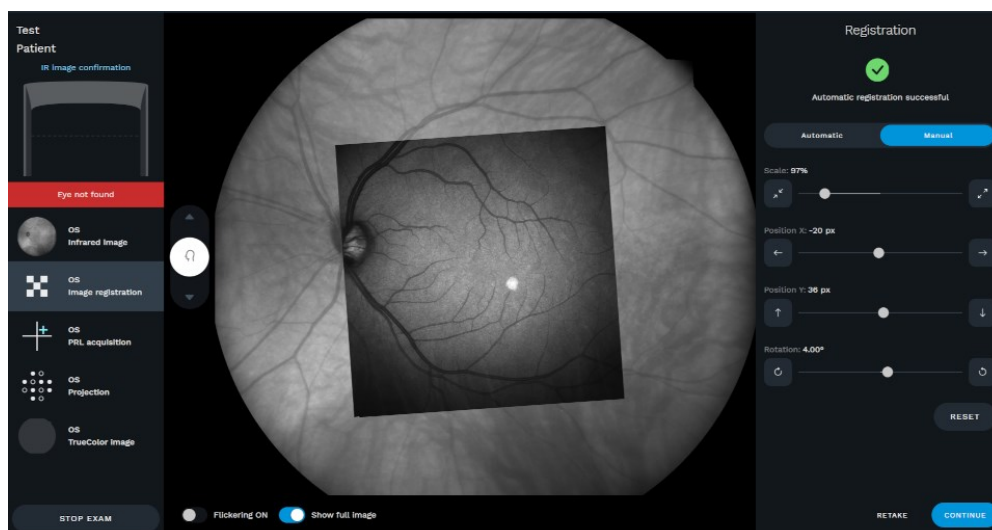

Fig. 81 - Targeted Exam: registration of the imported image over the IR reference image
- Registration of the imported image over the IR reference image. The procedure is the same as for the registration of the Follow-up IR image over the baseline IR image and described in §11.11 (see Fig. 81): the parameters are calculated automatically, but can then be overridden/fine-tuned manually